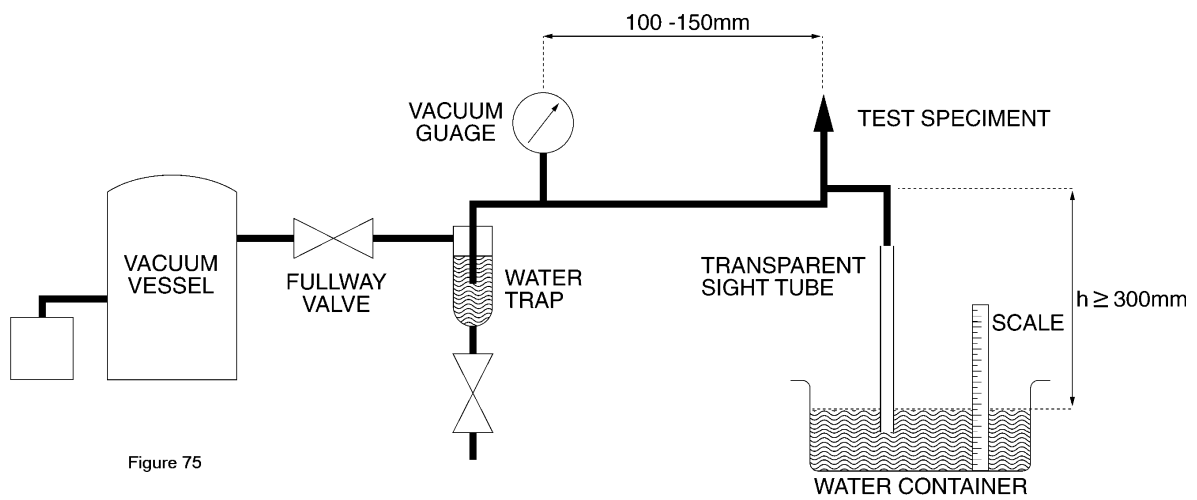

Figure 75
- (1) Remove any check valve fitted at the cold water inlet to the tap, or the shower hose outlet connection. If the check valve is not designed to be removed then foul with 0.75mm nylon thread. Do not remove any jet regulator or flow straightening devices fitted.
- (2) Connect the cold water inlet of the tap to the test vacuum facility. (Reference Figure 75).
- (3) Fit the transparent sight tube of suitable length to the shower hose outlet connection, avoiding kinking. Submerge the other open end in water, the surface of which being 150mm to 200mm below the bath outlet of the tap under test.
- (4) Close the tap hot water headworks. Ensure that the cold water headworks is fully open and the diverter is in the 'flow-to-bath' position.
- (5) Apply a vacuum gauge pressure of 0.5 bar minimum on gauge "B".
- (6) Observe the sight tube for a period of at least 5 seconds and then note the height to which any water is drawn into the sight tube above the level of water in the container.